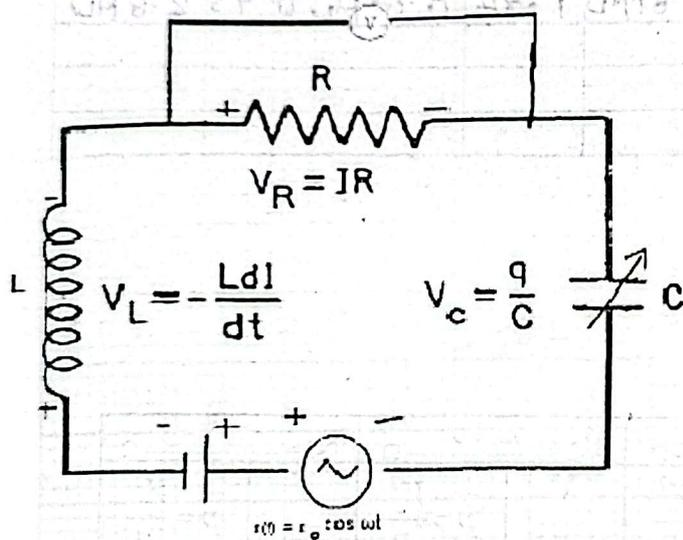
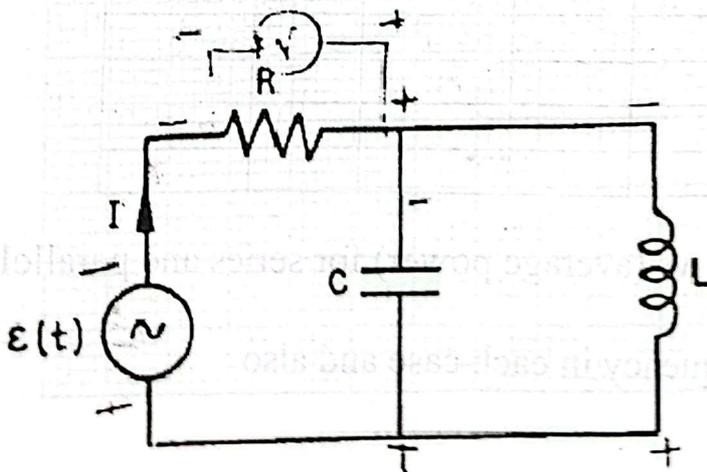

Fig1 : circuit set up for series connection
Fig2 : circuit set up for parallel connection
1. The series and parallel LCR circuits are to be connected as shown in fig 1 & fig 2.